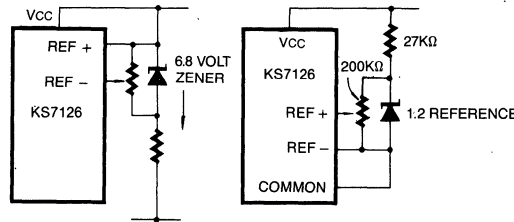

Fig. 4: Using an External Reference
The limitations of the on-chip reference should be also recognized, however. The reference temperature coefficient (TC) can cause some degradation in performance. Temperature changes of 2 to 8 $^{\circ}\text{C}$ , typical for instruments, can give a scale factor error of a count or more. Also the common voltage will have a poor voltage coefficient when the total supply voltage is less than that which will cause the zener to regulate (< 7V). These problems are eliminated if an external reference is used, as shown in Fig. 4.